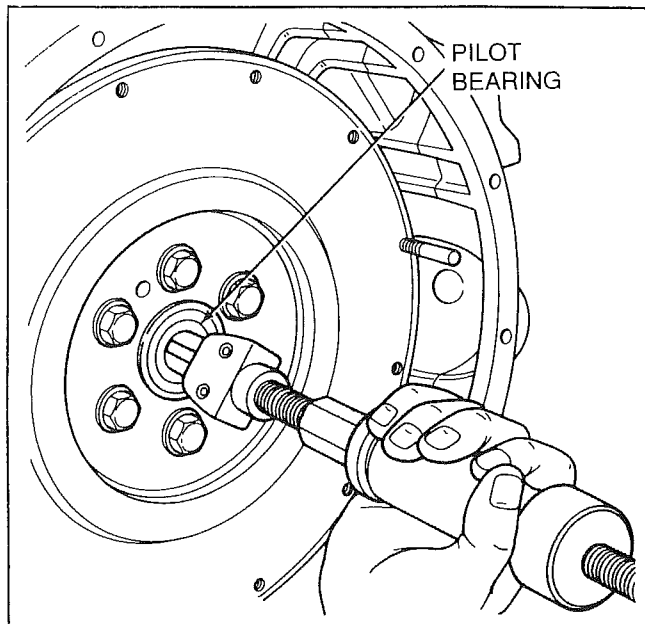

Figure 7-5. Removing the Pilot Bearing
20. If necessary, remove the pilot bearing using a bearing puller and discard the bearing (Fig 7-5).